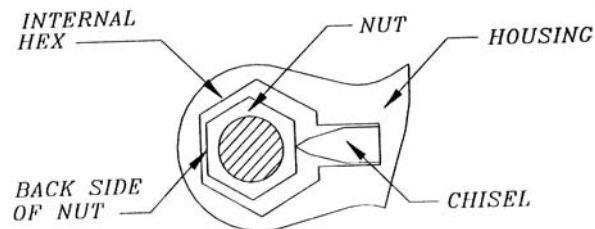

Figure 10
2. Place the internal hex of the housing over the nut. Pull the housing against the back side of the nut, with the nut centered on the back side of the internal hex. The housing of the nut splitter should be flat on the surface of the flange. The cutting chisel should be as close to the bottom of the nut as possible and be centered on a flat of the nut. See Figure 10.